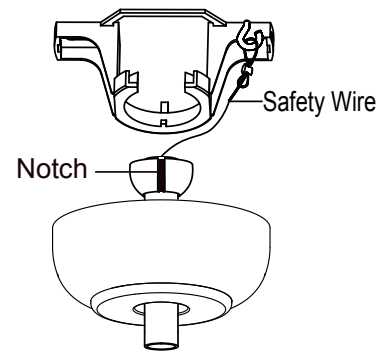

Fig.9
9. Seat the down rod ball assembly into the bracket, ensuring the notch in the hanger ball is positioned on the stopper of the hanger bracket to prevent the fan from rotating when in operation. Install the safety wire to the ceiling, the safety wire must be adjusted as short as possible and secure until snug. Refer Fig. 9